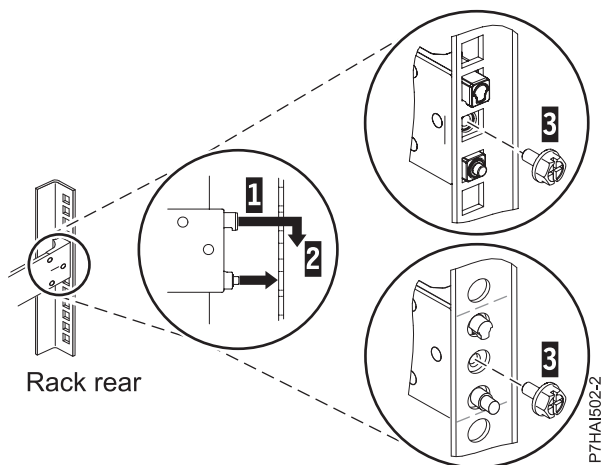

Figure 20. Aligning and engaging the pins into the holes in the rear of the rack
3. Align the two pins located on the rear of the slide rail with the top and bottom holes within the selected EIA unit that were previously marked. Pull the slide rail toward you to insert the two pins into the rack holes (1), and lower the slide rail down (2) to engage the hook feature on the top pin. For details, see Figure 20 on page 22. Ensure that the two pins protrude through the rack holes before you proceed to the next step.